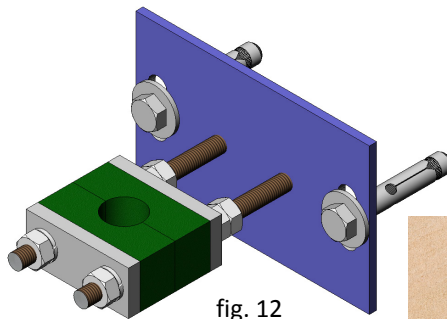

fig. 12
- A stem support-guide (Fig. 12) is recommended every 1.5 m.